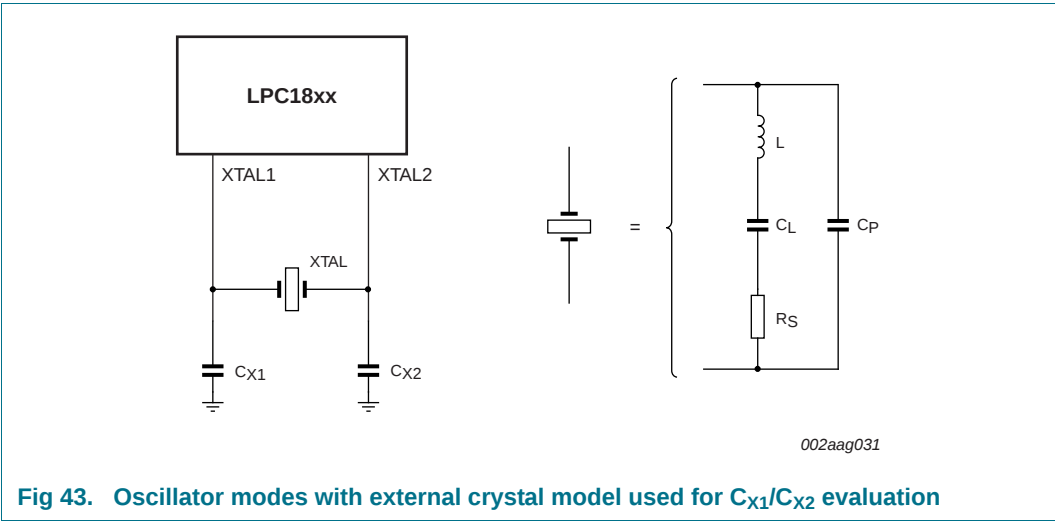

Fig 43. Oscillator modes with external crystal model used for C_{X1}/C_{X2} evaluation
- External components and models used in oscillation mode are shown in Figure 43, and in Table 37 and Table 38. Since the feedback resistance is integrated on chip, only a crystal and the capacitances C_{x1} and C_{x2} need to be connected externally in case of fundamental mode oscillation (L , C_L and R_s represent the fundamental frequency). Capacitance C_P in Figure 43 represents the parallel package capacitance and must not be larger than 7 pF. Parameters F_c , C_L , R_s and C_P are supplied by the crystal manufacturer.